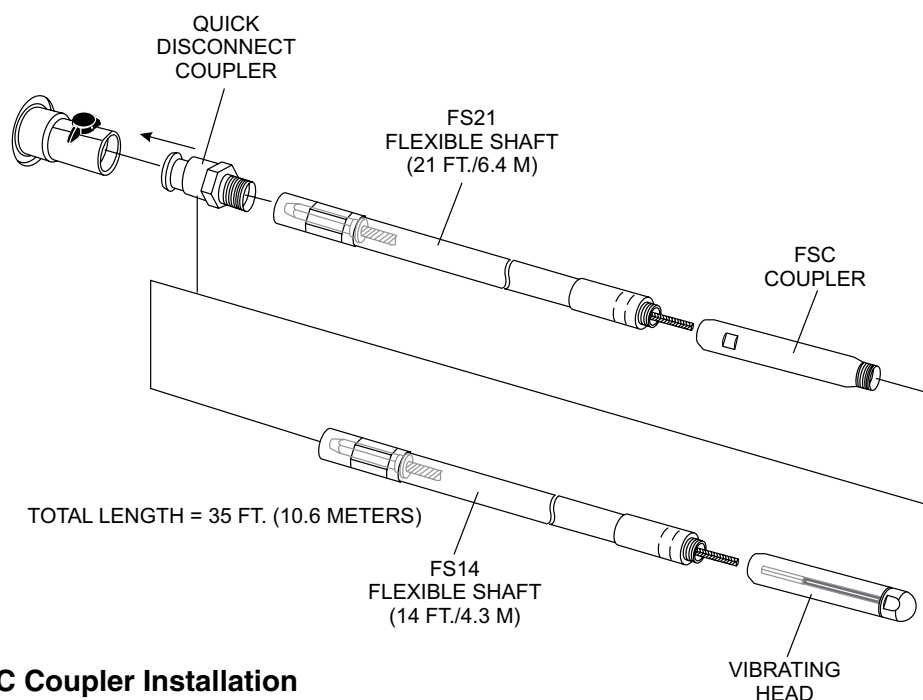

Figure 5. FSC Coupler Installation
1. Install FSC shaft coupler as shown in Figure 5.